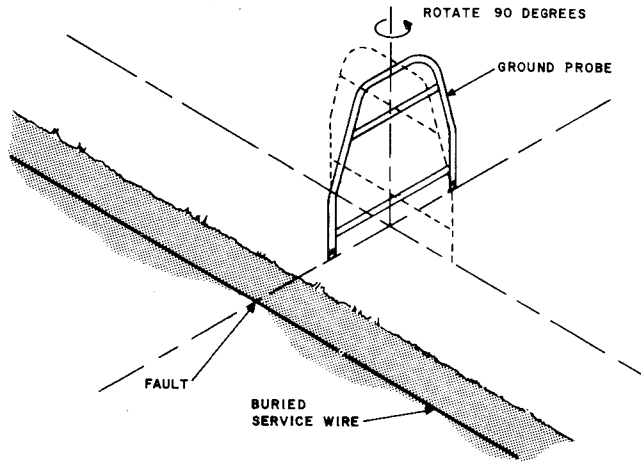

Fig. 12—Ground Probe Orientation Method to Determine Location of Fault
4.23 Mark the point halfway between the ground probe electrodes. This mark pinpoints the fault (Fig. 12).